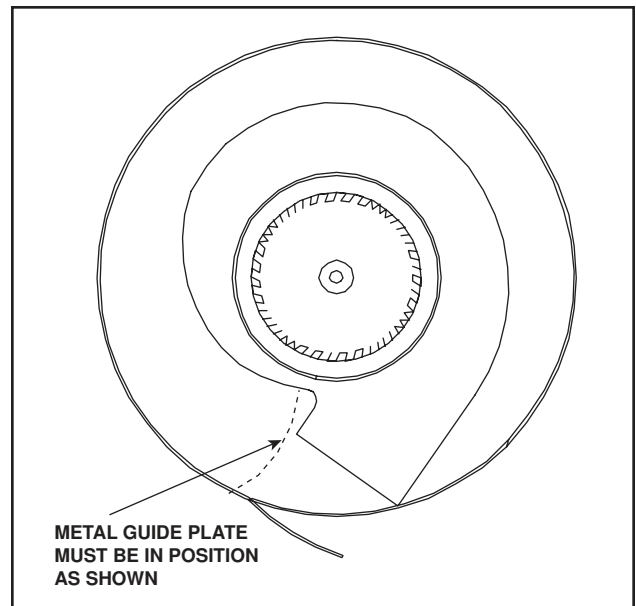

Figure 12.
- G. Bend the metal guide plate at the exhaust port hole out and through the hole on the 10-1/2 in. diameter collar. See Figure 12.